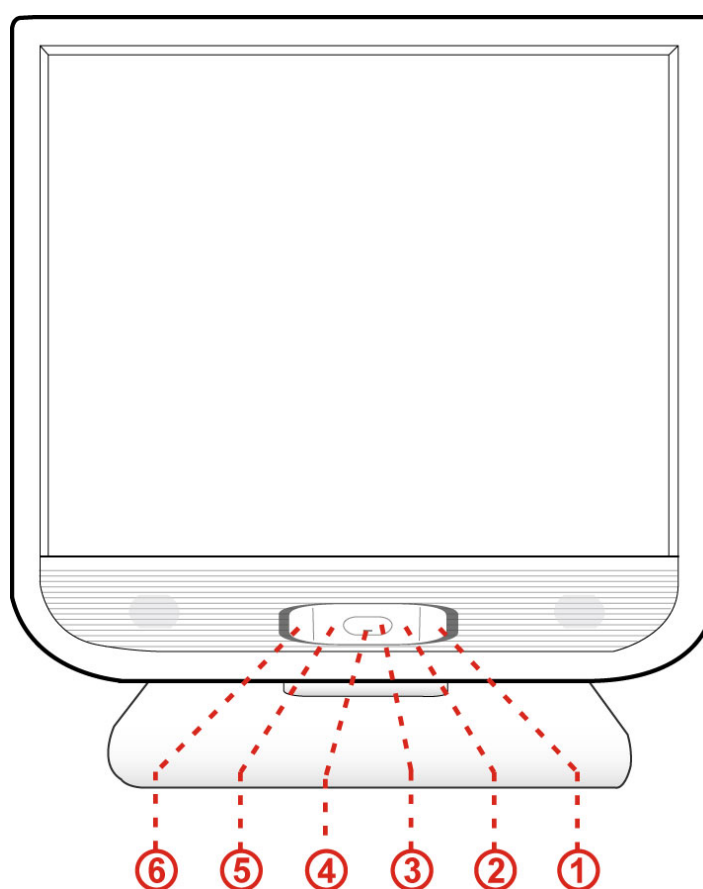

Figure.4. External Control Button
Press the power button to turn the monitor on or off. The other control buttons are located at front panel of the monitor (See Figure 4). By changing these settings, the picture can be adjusted to your personal preferences.
<p>The diagram shows the 'BRIGHTNESS CONTRAST' OSD menu. At the top, it has a title bar 'BRIGHTNESS CONTRAST' and a navigation bar with icons for brightness, contrast, RGB, image, menu, and a red 'R' button, followed by an 'Exit' button. The main area contains two menu items: 'BRIGHTNESS' and 'CONTRAST', each with a right-pointing arrow. At the bottom, there is a control bar with '< > ADJUST', 'MENU:ENTER', and 'AUTO:EXIT'.</p>	<p>Brightness/Contrast adjustment:</p> <p>Brightness: Adjusts brightness by using the buttons < or > (② and ⑤ in fig. 4).</p> <p>Contrast: Adjusts screen contrast by using the buttons < or > (② and ⑤ in fig. 4).</p>
<p>The diagram shows the 'IMAGE CONTROL' OSD menu. At the top, it has a title bar 'IMAGE CONTROL' and a navigation bar with icons for brightness, contrast, RGB, image, menu, and a red 'R' button, followed by an 'Exit' button. The main area contains five menu items: 'AUTO ADJUSTMENT', 'H. POSITION', 'V. POSITION', 'CLOCK', and 'PHASE', each with a right-pointing arrow. At the bottom, there is a control bar with '< > ADJUST', 'MENU:ENTER', and 'AUTO:EXIT'.</p>	<p>Image Control:</p> <p>Auto Adjustment: Automatically selects the optimal settings for image parameters (image position, phase, etc.) by using the button MENU (① in fig. 4).</p> <p>H. Position: Controls the picture's horizontal position.</p> <p>V. Position: Controls the picture's vertical position.</p> <p>Clock: Sets up the internal clock. Larger values make the displayed image appear wider; smaller values make it appear compressed.</p> <p>Phase: Adjusts the internal clock's time lag in order to optimize the screen image.</p>
<p>The diagram shows the 'COLOR' OSD menu. At the top, it has a title bar 'COLOR' and a navigation bar with icons for brightness, contrast, RGB, image, menu, and a red 'R' button, followed by an 'Exit' button. The main area contains three menu items: '9300K', '6500K', and 'CUSTOM COLOR', each with a right-pointing arrow. At the bottom, there is a control bar with '< > ADJUST', 'MENU:ENTER', and 'AUTO:EXIT'.</p>	<p>Color:</p> <p>This menu lets you select a preset color temperature (9300K, 6500K) by pressing the OSD buttons < or > (② and ⑤ in fig. 4). Changes to the color temperature take immediate effect on screen. If you wish to set individual color values, select the Custom Color option. Then press the MENU button (① in fig. 4) to select the red, green and blue settings and set the desired value using the OSD buttons < or > (② and ⑤ in fig. 4). The current settings are automatically saved when you return to the previous level or exit the OSD menu.</p>